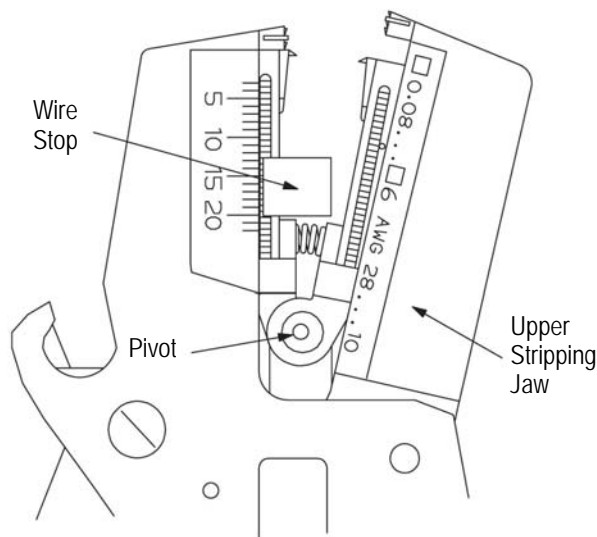
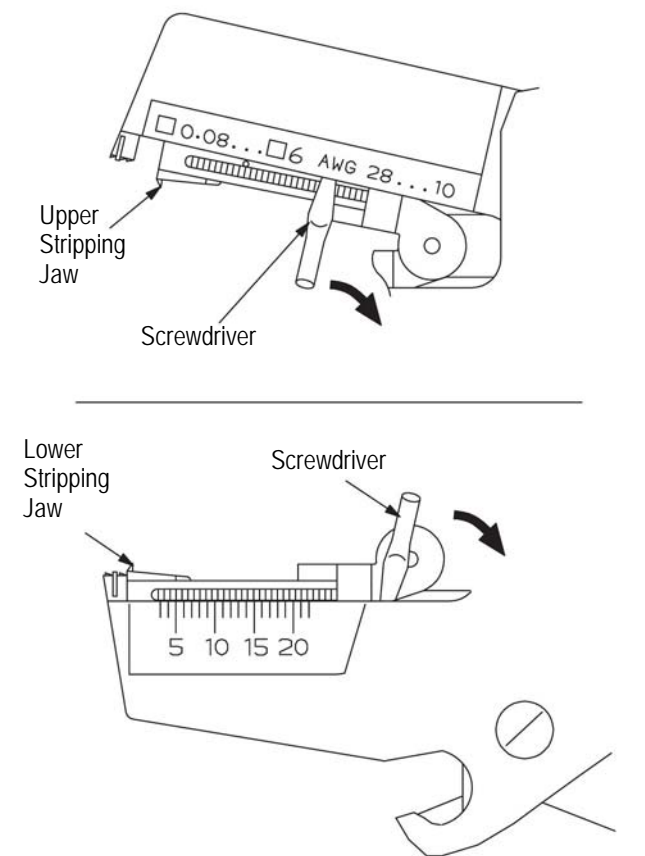

Figure 4
Figure 5
5.1. Jaw Removal (Figure 4 and Figure 5)
1. Open the jaws and position the tool as shown in Figure 4.